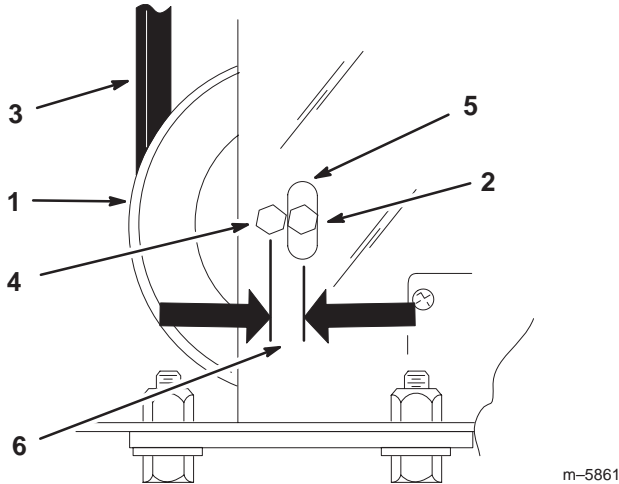

Figure 13
7. Install the mower belt onto the drive pulley assembly (Figures 13 and 21).
Note: The bolt head on the drive pulley assembly, should be approximately centered horizontally, in the frame slot (Fig. 13). View this from the right-hand side of the machine.
Note: The bolt head on the drive pulley assembly, should be approximately a 1/4 inch (6mm) rearward of the center in the frame slot (Fig. 13). View this from the right-hand side of the machine.